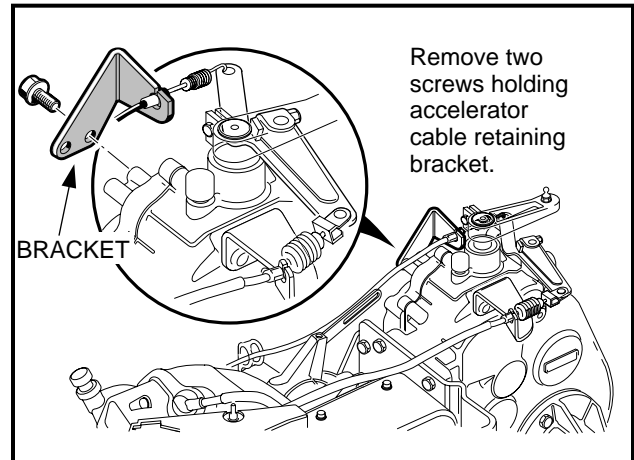

Figure 16-33 Accelerator Cable Bracket
19. Remove screws securing the accelerator cable bracket to transaxle (**Figure 16-33, Page 16-13**).